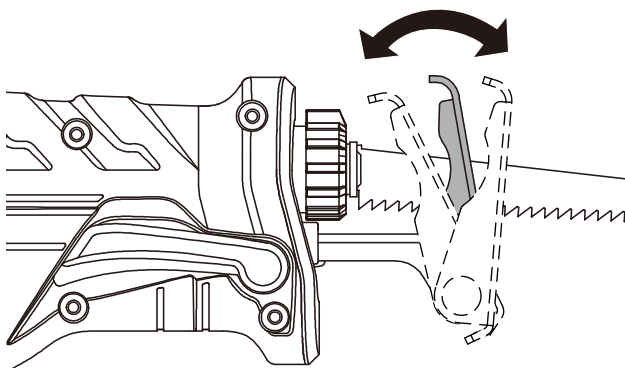

Figure 2
1. PIVOT FOOT PLATE ANGLE ADJUSTMENT (SEE FIG. 2)